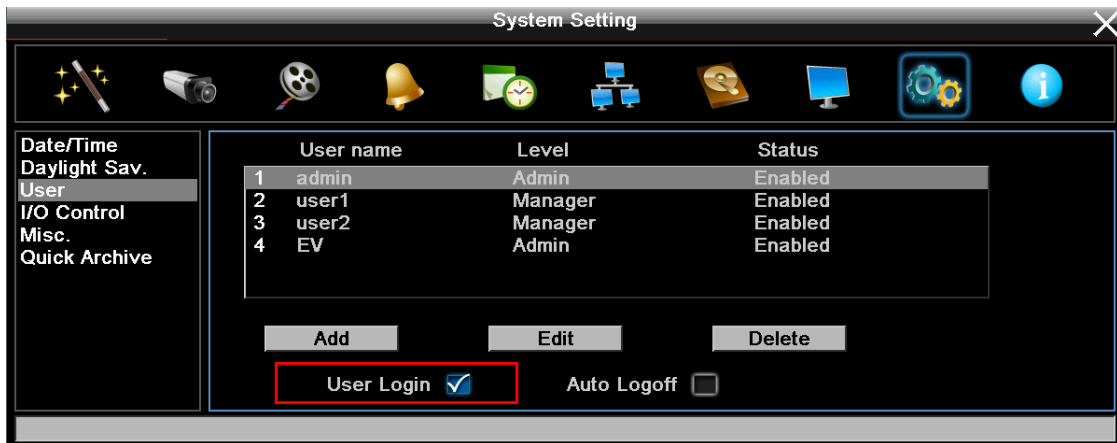

Figure 4-6
1. Ensure the User Login box is **Unchecked** (Figure 4-6).